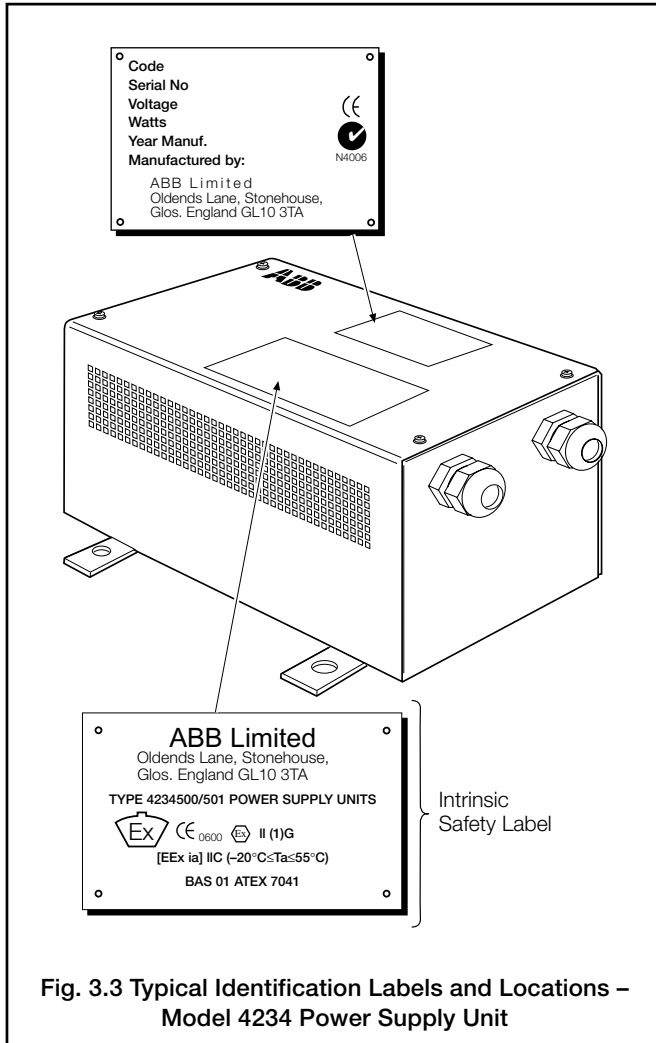

Fig. 3.3 Typical Identification Labels and Locations – Model 4234 Power Supply Unit
2.3 Model 4234 500/4234 501 Power Supply Units (PSU) – Fig. 3.3
3.1.3 Model 4234 Power Supply Unit – Fig. 3.3